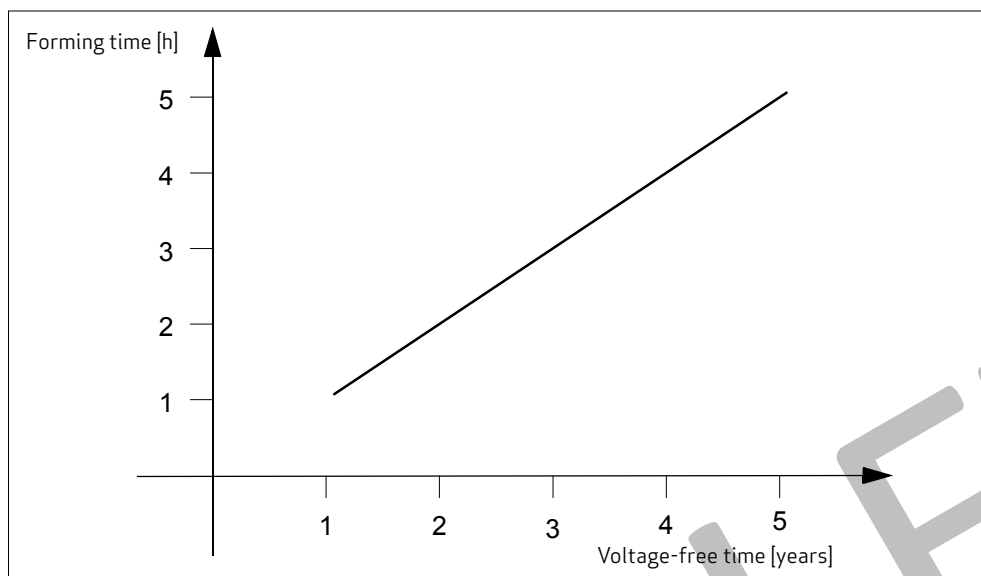

Fig. 11: Forming time as a function of the voltage-free time
- ☒ Allow the unit to be formed for a period that corresponds to the voltage-free time (► Fig 11).